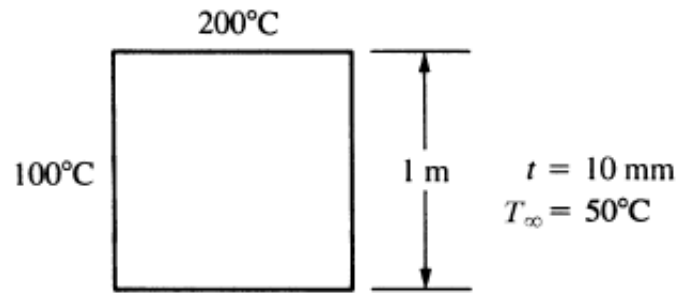

Figure P7.12
12. For the square plate shown in **Figure P7.12**, determine the temperature distribution. Let $k = 10 \text{ W/(m}^0\text{C)}$ and $h = 20 \text{ W/(m}^2\text{ }^0\text{C)}$. The temperature along the left side is maintained at 100°C and that along the top side is maintained at 200°C .